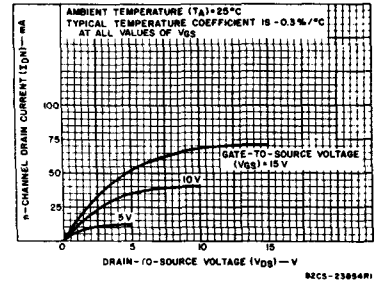

Fig. 5—Typical n-channel drain characteristics for Q output.
** If more than one unit is cascaded in single-phase parallel clocked application, t_r, t_f should be made less than or equal to the sum of the propagation delay at 15 pF, and the transition time of the output driving stage. (See Figs. 5 and 7 for cascading options.)